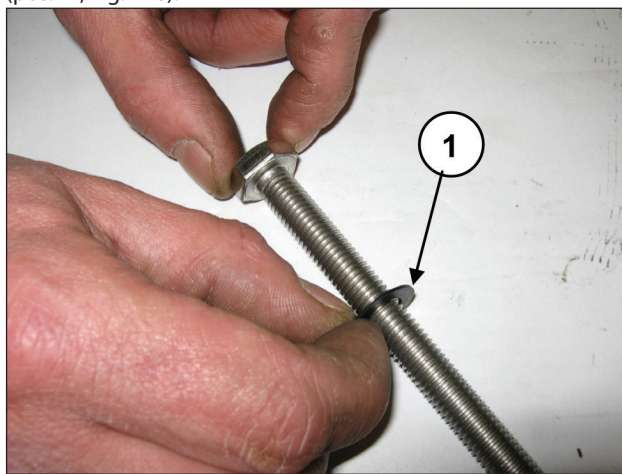

Fig. 146
Insert the  $\varnothing 10 \times 18 \times 0.9$  washer in the piston fixing screw (pos. ①, Fig. 146).